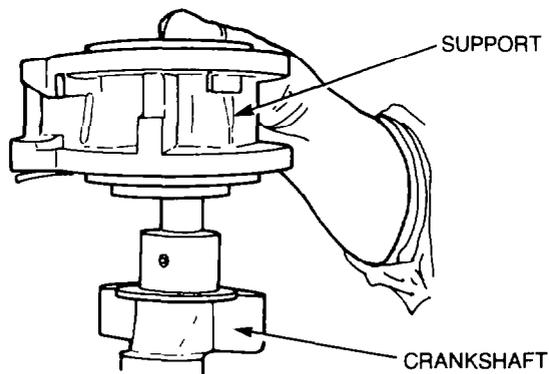

Figure 251 — Crankshaft and Support
- f. Lubricate the crankshaft journal and the crankshaft support with clean engine oil, then install the crankshaft into the support (see Fig. 251).